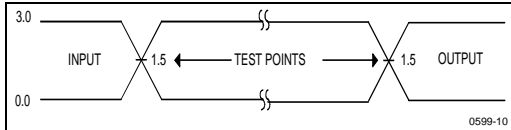

Figure 10. High Speed Test Waveform
2. 5% VCC specifications apply to the high-speed test configuration (Figures 10 and 12).